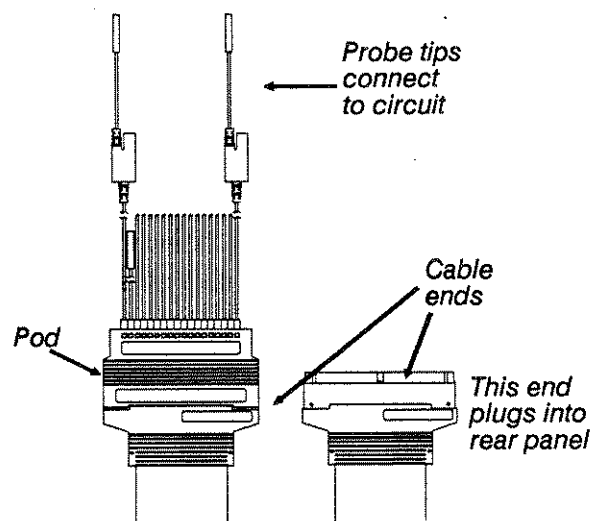
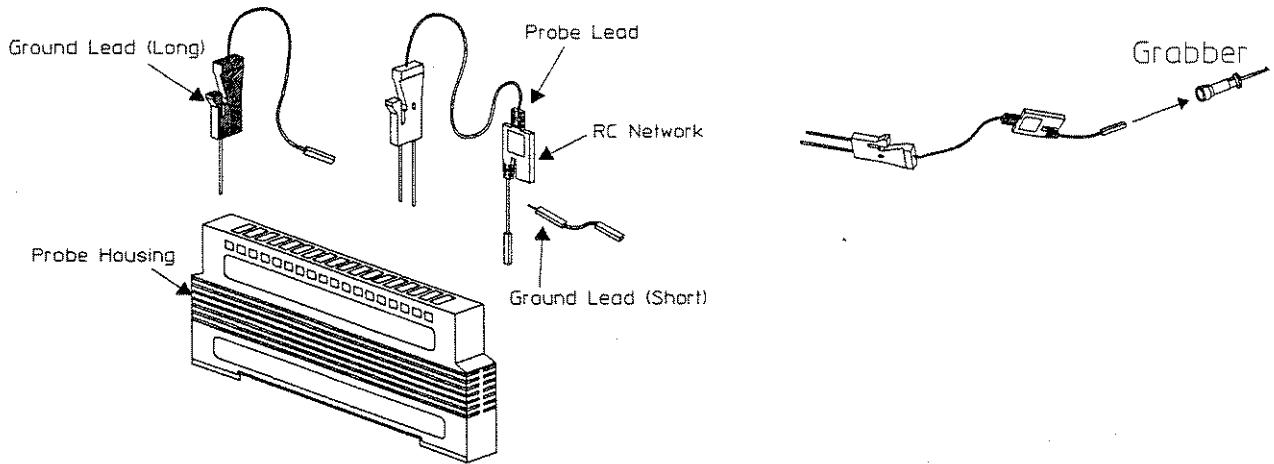
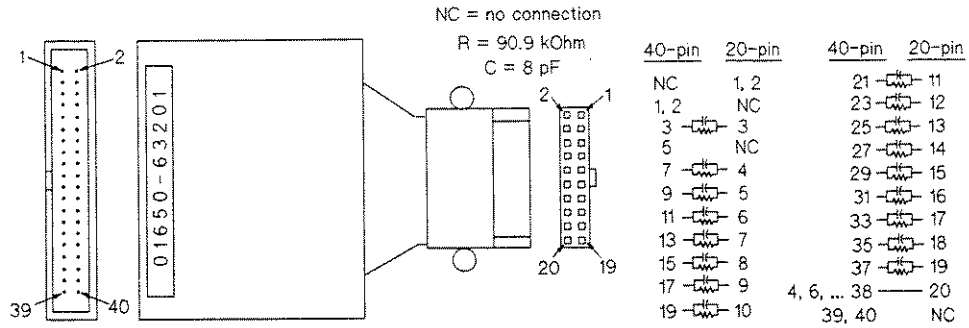

Figure 13-3. Input Cable and Pod
Figure 13-5. Digital Input Pod Assembly
Figure 13-9. Optional Termination-Adapter Pod
There are three identical input cables and input pods supplied with the HP 3563A. During installation these are labeled as Pods 1, 2, and Q. See figure 13-3. The input cables should be connected to the device under test with either the pod tips or the optional termination-adaptor pod. See figure 13-9. These contain signal-conditioning circuitry. The input pods are:
You can connect the probe directly to test pins on your target system or to grabbers. Grabbers are spring-loaded connecting hooks designed to fit on adjacent IC pins. See figure 13-5. If you want to connect to test pins without using the grabbers, the pins must be 0.63 mm (0.025 in.) square or round pins with a diameter between 0.66 mm (0.026 in.) and 0.84 mm (0.33 in.). Most IC test clips work.
Probes can be grounded either through a common pod ground or with a ground connection that exists on each of the probe ends. To reduce noise and aid clocking of high-speed signals, use probe grounds close to the signal source; clock grounding is the most critical. See figure 13-5. There are two ways to connect the digital input signal lines to the target system: with the input probes defined here or with the termination adapter pod shown in figure 13-9. Both of these methods provide the RC signal-conditioning network required by the analyzer inputs (90.9 k Ω in parallel with 8 pf). To disconnect a probe from the pod assembly, insert the tip of a ball-point pen in the latch opening while gently pulling the probe out of the probe housing.
- HP 01650-63201 termination adapter pod (for input cables); see figure 13-9. A 40-to-20-pin adapter containing the same signal conditioning circuits as are in the standard input pod. The 20-pin connector is a 2×10 position, 4-wall, low-profile header connector, 3M® Series 3592.